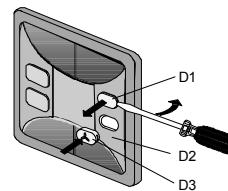

Figure 3: Inserting the pictograms
- For inserting the labels the cover (see illustration, figure3) of the labelling area must be removed from the push button.
The four pairs of push buttons have a slot at the side for lifting out the perspex covers. Insert the selected pictogram in the cover and then press on the basic push button module. (See figure 3)